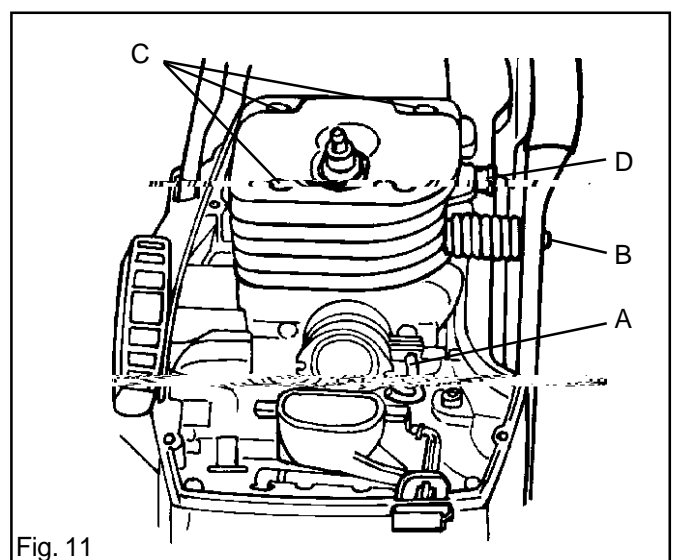

Fig. 11
4. Fit the decompression valve (D). See fig.11. Tighten it to 15 Nm.
8. Guide up the cylinder base gasket with the four bolts (C) and tighten them alternately. Tighten them finally to 10 Nm. See fig. 11.
9. Fit the anti-vibration spring (B) on the cylinder. See fig.11. Tighten the bolt to 10 Nm.